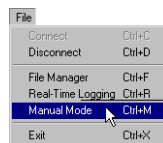

Figure 2-22. File->Manual Mode
3. Once connected, click on **File->Manual Mode** to open the Manual Mode dialog box (Figure 2-22).